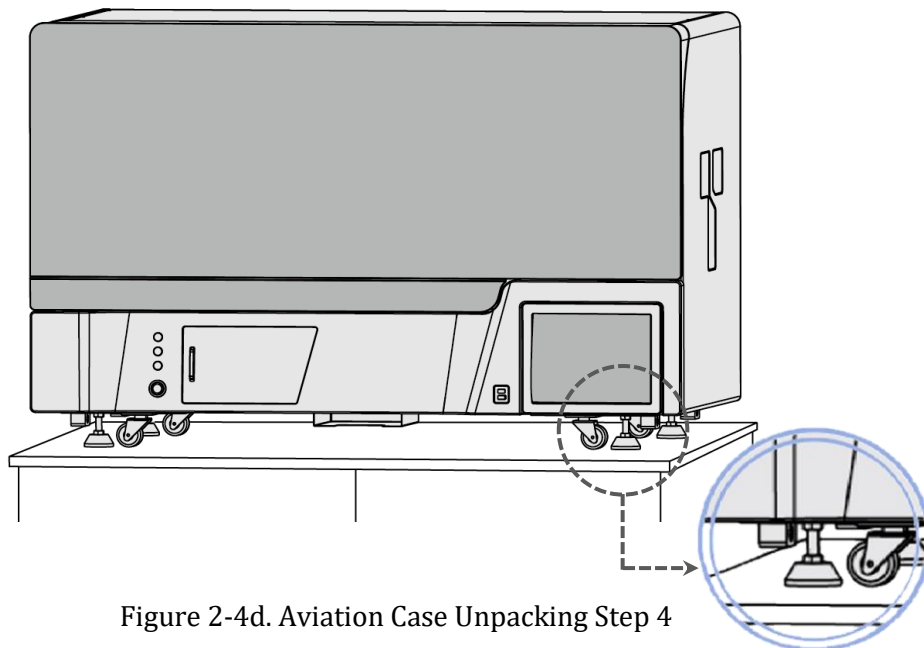

Figure 2-4d. Aviation Case Unpacking Step 4
**4th Step:** Place the PANA Workstation on a steady bench, rotate down the supporting feet and let them re-landed. Adjust the height of each supporting foot and ensure the PANA Workstation to stand steadily, as shown in figure 2-4d.